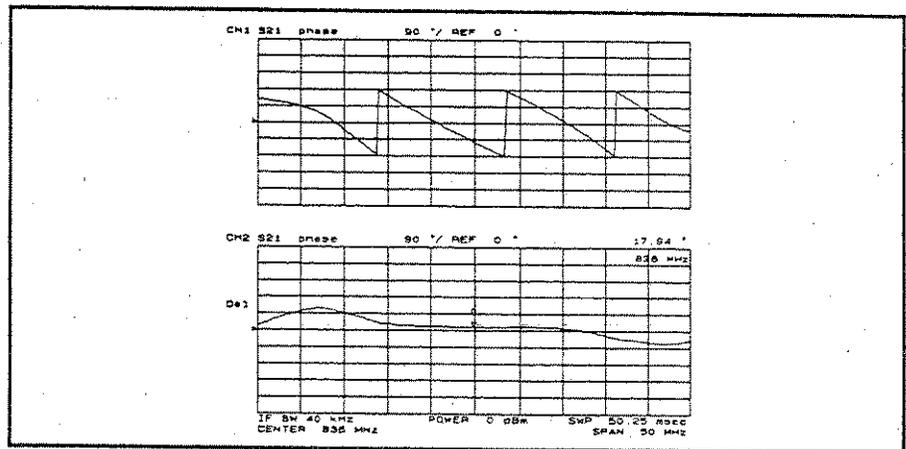

Figure 4-8. Electrical Length Adjustment
4. Press **Display** **DUAL CHAN** on **OFF** to **ON** off to display the results before and after the adjustment. The results are shown in Figure 4-8.
You can also determine the electrical length by pressing **Scale Ref** **ELEC DELAY MENU** **ELECTRICAL DELAY**. Then turn the rotary knob until the displayed trace is flat (see Figure 4-8). It may take many revolutions of the knob before the trace is flat.